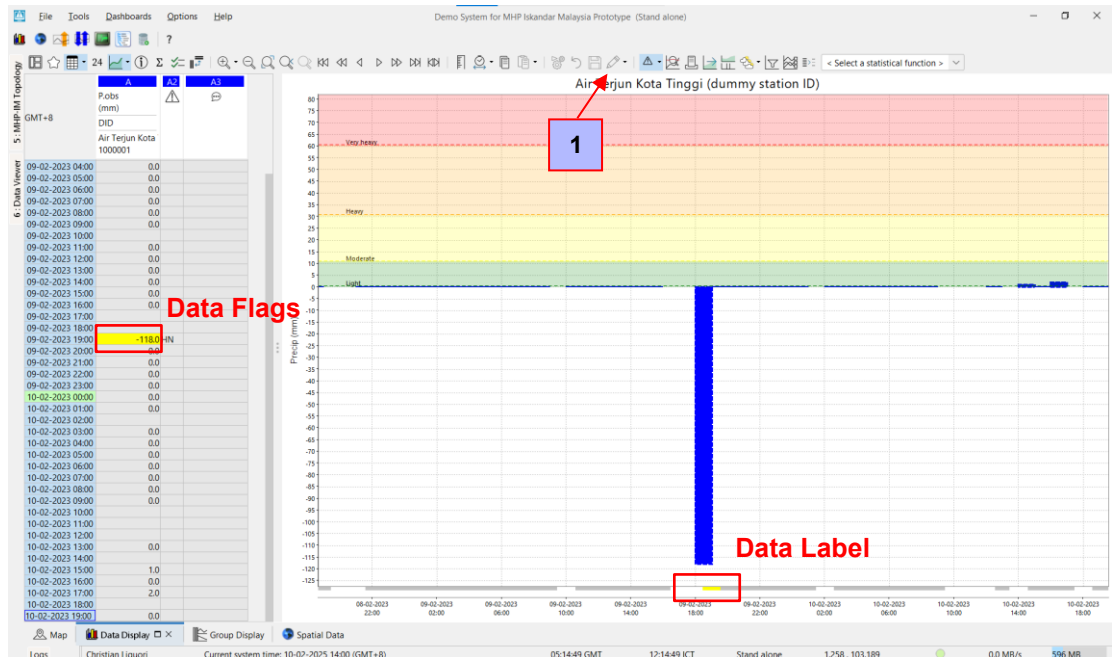

Figure 4.7 Example of Data Flags and Data Labels Indicating Unreliable Data
The edit mode can be enabled from the toolbar with the  **Switch to Edit mode** button (see (1) in **Figure 4.7**). Only records where the background colour turns white after pressing the Switch to Edit mode button can be edited. Editing can be done in the table directly. The result of an edit action is directly displayed in the corresponding graph. Manually corrected data will be saved to the database by disabling the Edit mode again from the toolbar. A pop-up will ask to save the edited data to the database. With **OK** the data is saved, **NO** the data is not saved and with **Cancel** changes will be undone.